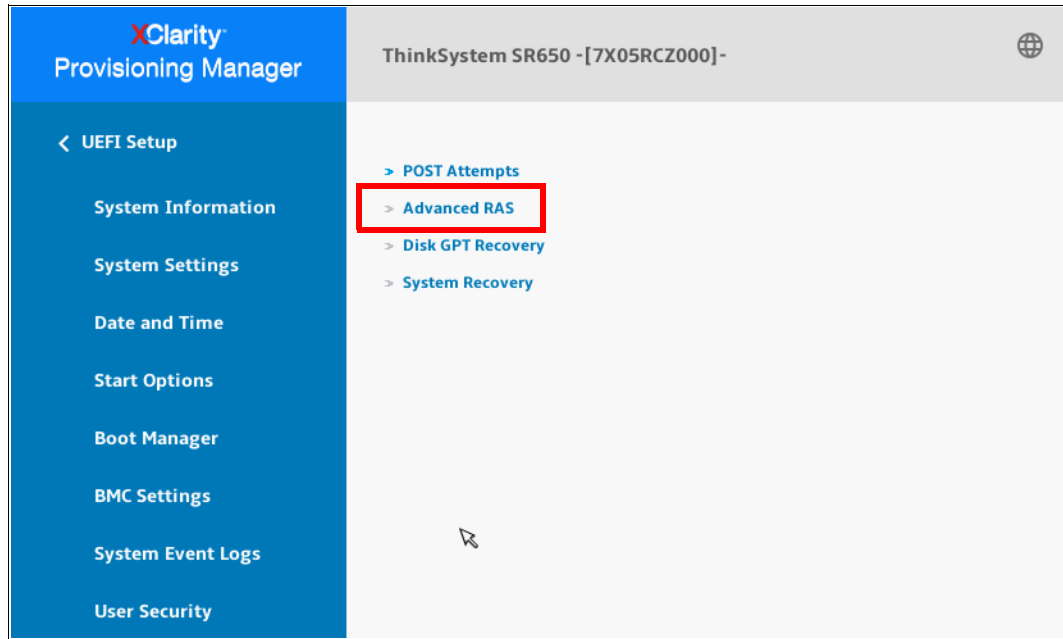

Figure 9 Recovery and RAS menu
3. Select Advanced RAS as shown in Figure 9 on page 13.